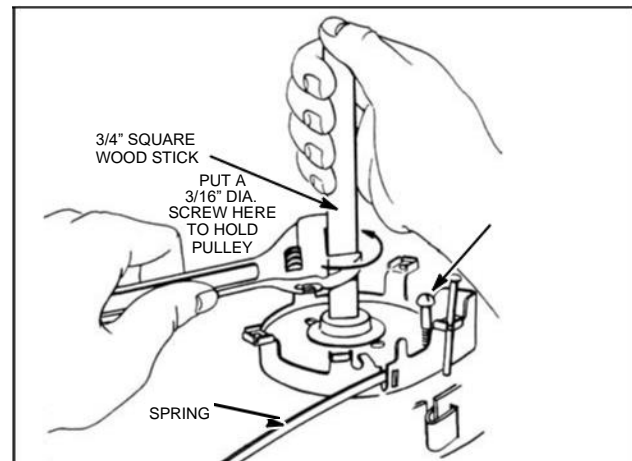

Fig. 588 – REMOVING ROPE
2. Take off five (5) nuts, screws, and washers holding case to blower housing.
3. Unwind rope. Wedge screw between pulley and case to prevent spring unwinding, Fig. 588. Untie knot and remove rope.
12. Use a 3/4" square stick about 6" long. Mark pulley and wind up 13-1/4 turns counterclockwise with a wrench. Push end of spring until it snaps into hole of case. Hold the pulley in this wound up position and wedge a 3/16" screw or other suitable object between pulley and case, Fig. 588. USE ROPE Part #69932 WITH SHEAVE HAVING 3/16" WIDE GROOVE. ROPE, Part #66429 (obs), IS USED WITH SHEAVES HAVING 7/32" WIDE GROOVE.